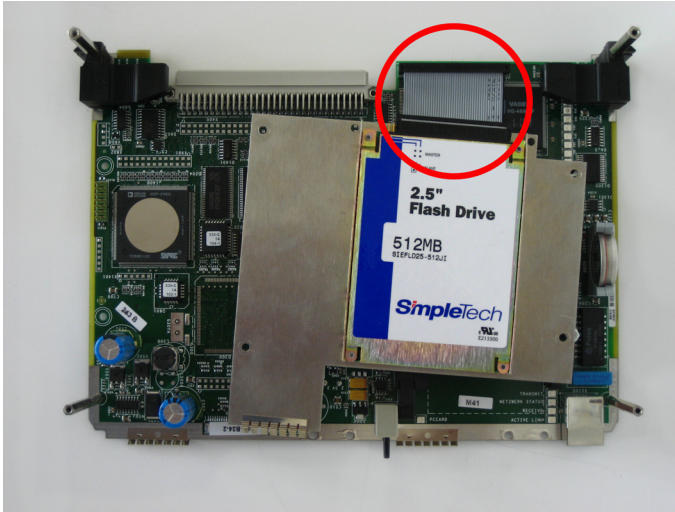

Figure 3-11 2.5" flash drive
- ❑ Carefully remove the IDE connection cable (see Figure 3-11). Make sure not to bend any of the connection pins of the 2.5" flash disk and the CPU module.